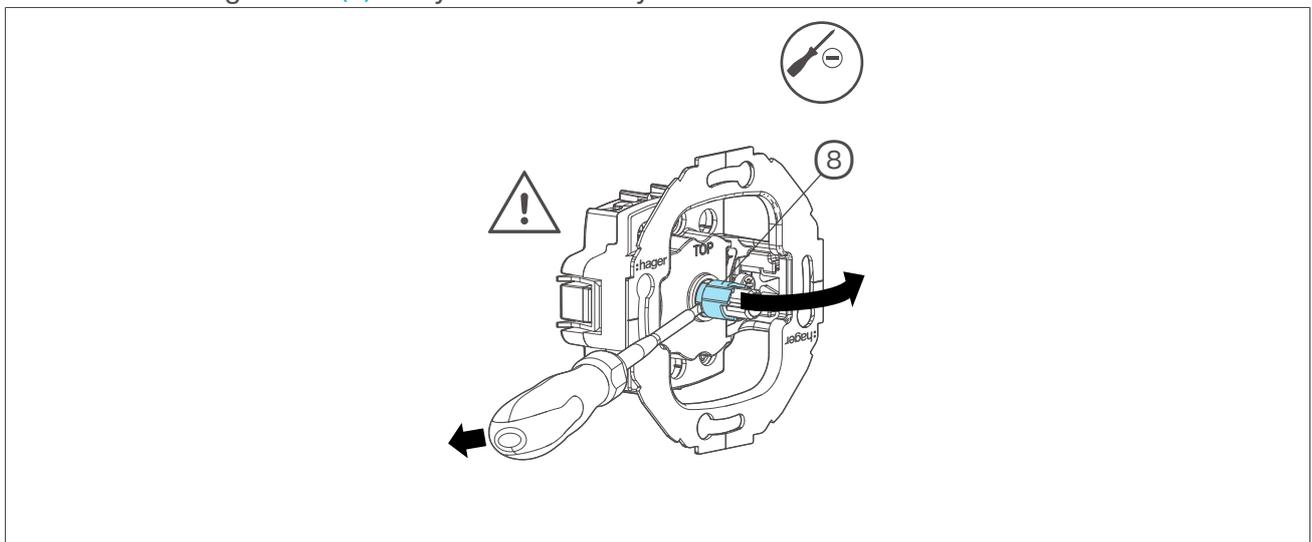

Fig. 3: Removing the centring sleeve
- 💡 – Pull the centring sleeve off the rotary axis (Fig. 3).